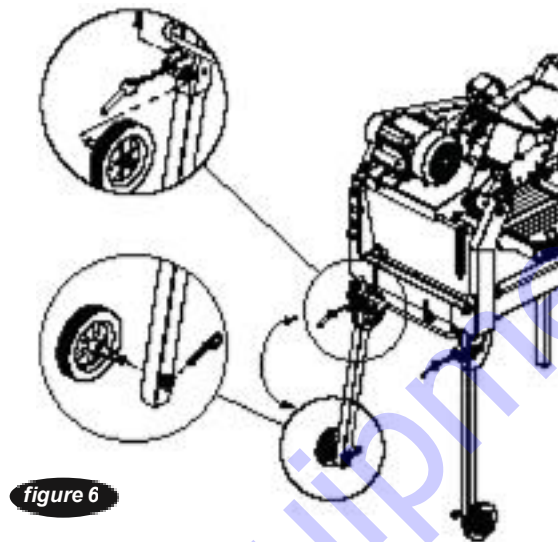

figure 6
1. Wheel assembly can be installed on the frame or the rear folding legs (see figure 6).